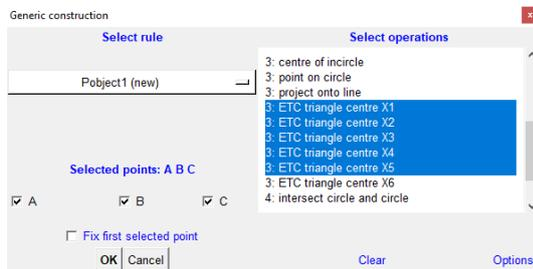

Figure 47
3. Click on the point P. A point rule form appears (Figure 47). Since we are creating a new rule we choose the name *Pobject1 (new)* and immediately declare the operations in the rule, i.e., ETC triangle centres 1-5. Note the “3:” in front of the operation names for ETC centres – 3 means that the operation takes 3 points as arguments. We also checkmark the points A, B, C